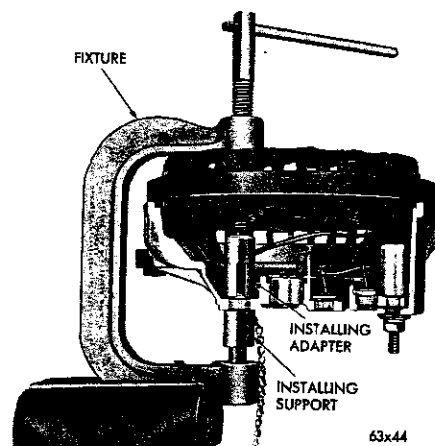

Fig. 75—Installing a Rectifier
(1) Confirm the rectifier identification to make sure the correct rectifier is being installed. Refer to the Parts List of rectifier identification.
(2) Support the heat sink or rectifier end shield on the installer adapter SP-3820 of Tool C-3928. Carefully apply pressure with the tool pressure screw until the installer tool, rectifier, rectifier and shield or heat sink are in alignment and after determining that the rectifier is started squarely in the casting, slowly apply pressure with the tool pressure screw until you feel the collar of the rectifier bottom against the casting (Fig. 75).